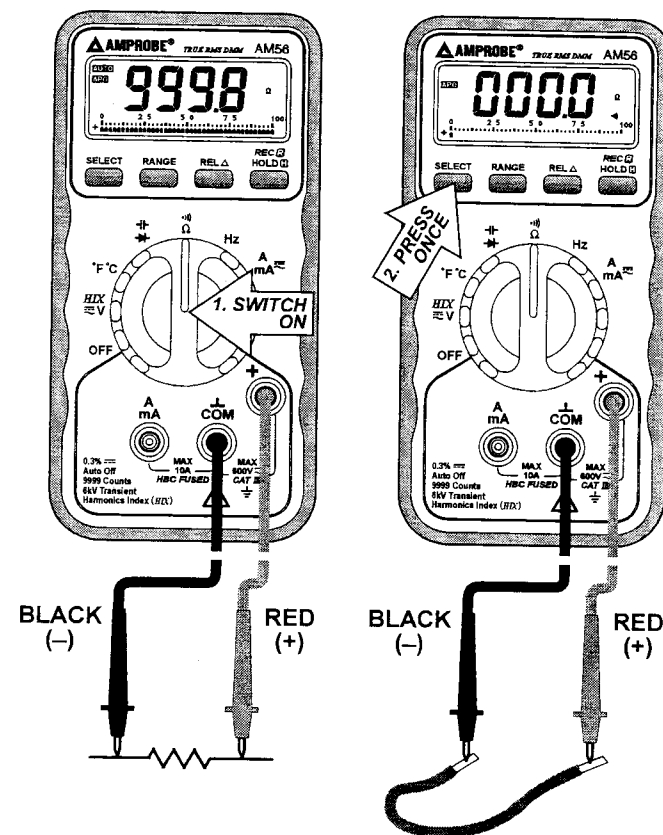

FIG 7. Ω RESISTANCE, $\cdot\cdot\cdot$ CONTINUITY FUNCTIONS
- 3) Connect the test leads as shown in FIG 7 and observe the digital display